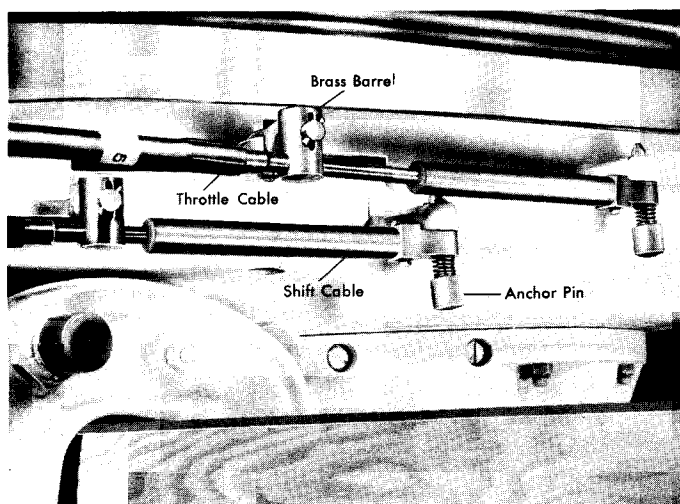

Figure 10. Cable Adjustments
3. Align brass barrel on throttle cable so that distributor is held lightly against idle stop screw with cable installed. (Figure 10)
6. If necessary, readjust brass barrel on cable to accomplish correct final adjustment. (Figure 10)